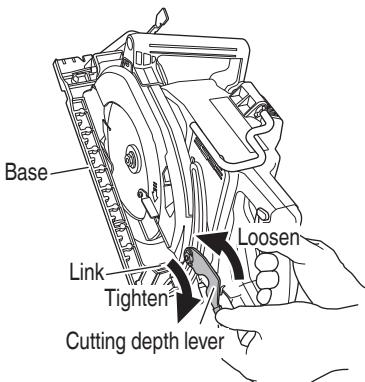
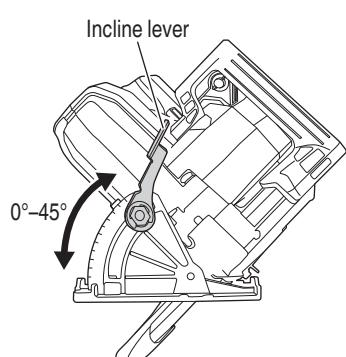

Fig. 21
Fig. 22
If the cutting depth lever to adjust cutting depth (Fig. 21) and the incline lever to adjust angle of inclination (Fig. 22) are loose, injury can result. Make sure that they are tightened securely.
1. Adjusting the cutting depth (Fig. 21)
As shown in Fig. 22 by loosening the incline lever on the bevel scale, the saw blade may be inclined to an angle of 45° in relation to the base.
If the cutting depth lever (Fig. 21) is loose, injury can result. Make sure that it is tightened securely.